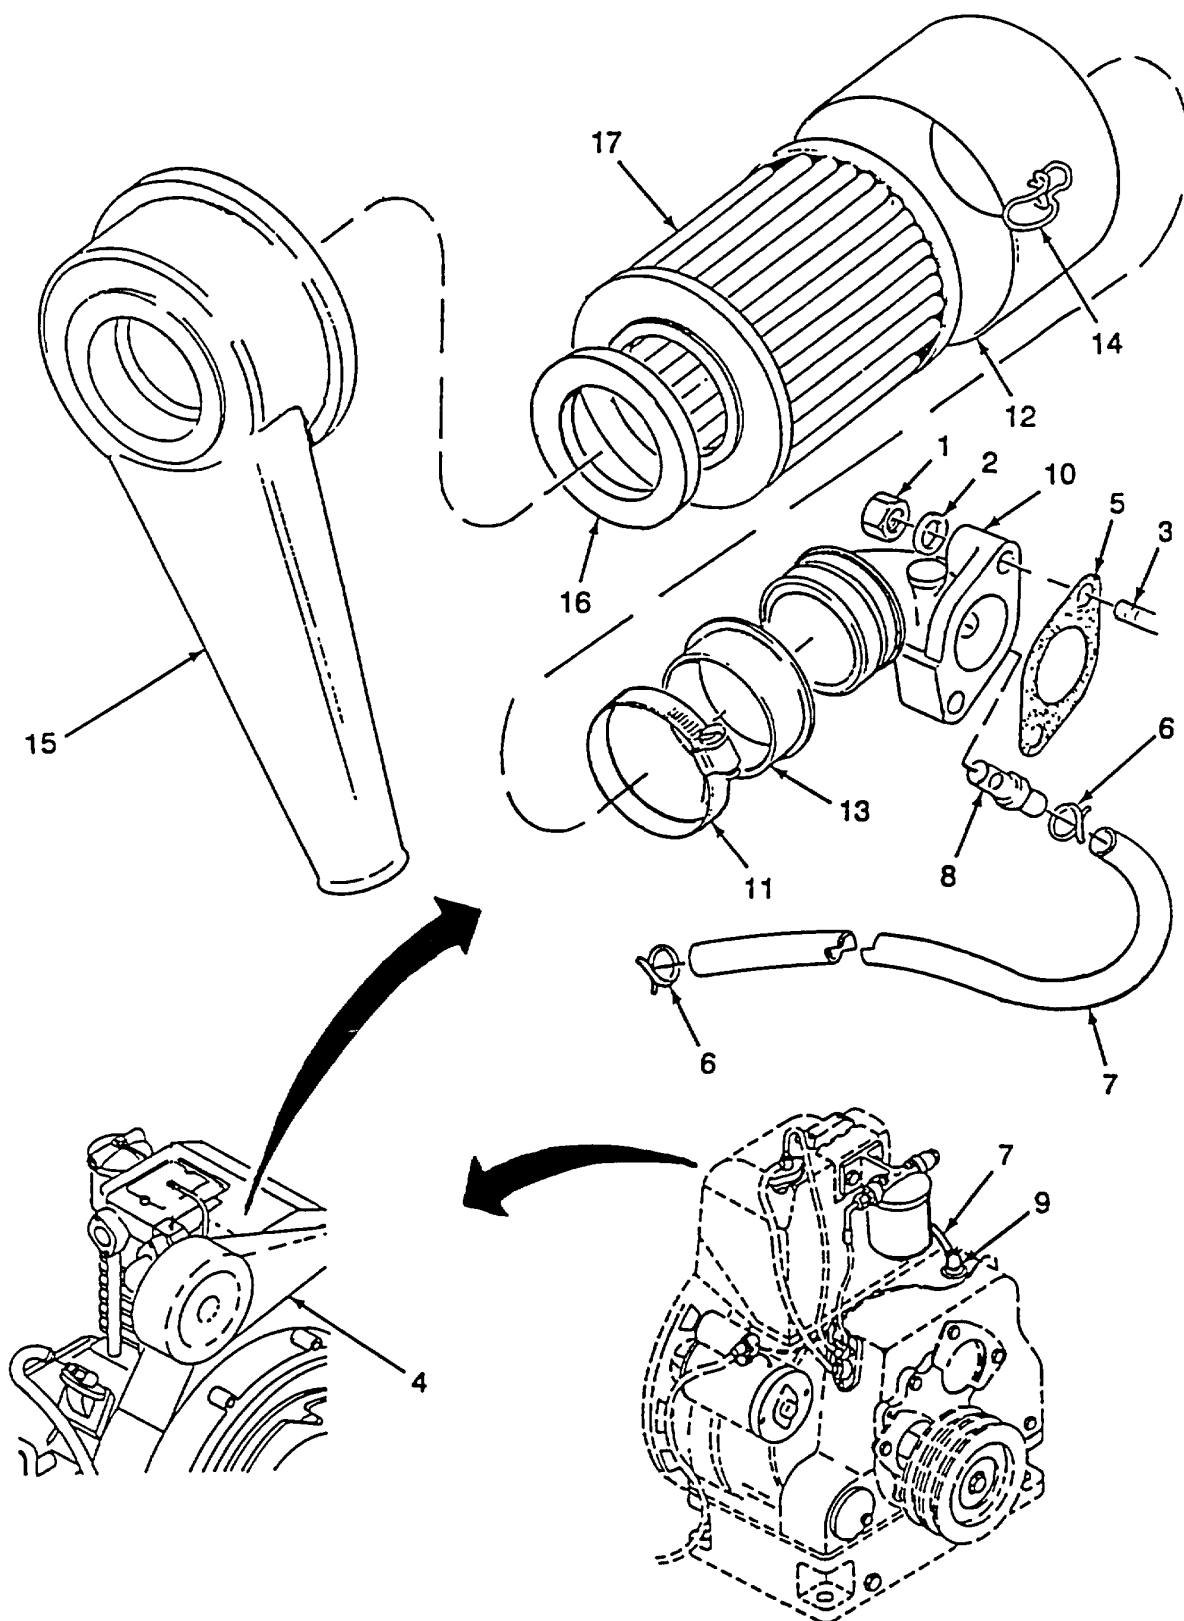

Figure 4-31. Air Cleaner Assembly
- (a) Set diesel engine (3) onto air-receiver tank mount (20), aligning up holes.
- (b) Install four nuts (17) under air-receiver tank mount (20), four washers (18), and bolts (19), through diesel engine (3) mount.
- (c) Install bolt (14), washer (15), and two ground wires (16) to diesel engine (3).
- (d) Position hose (12) on air cleaner (13), securing with clamp (11).
- (e) Connect electrical lead (8) to glow plug (10), securing with nut (9)
- (f) Install oil temperature switch (7) into diesel engine (3)
- (g) Connect fuel line (5) to suction side of fuel pump (6) and tighten clamp (4).
(1) Removal. (Refer to Figure4-31).
- (a) Remove hose from air cleaner (para 4-39.a.). Remove breather tube (7) from valve (9)
- (b) Remove two nuts (1) and two washers (2) from studs (3)
- (c) Remove air cleaner assembly (4) and gasket (5) from cylinder head.
(2) Disassembly.